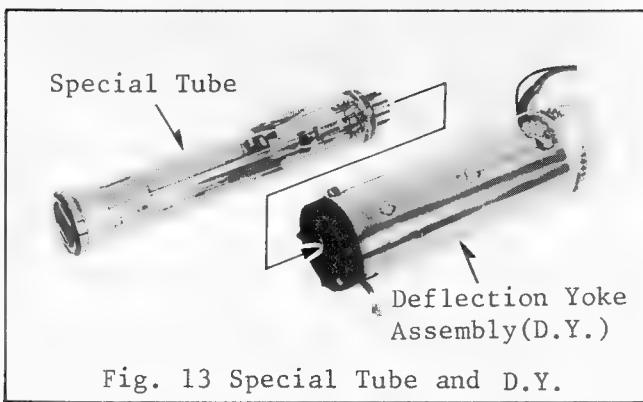

Fig. 13 Special Tube and D.Y.
- 3-10. Install the new special tube (K4103) in the deflection yoke assembly as shown in Fig. 13.